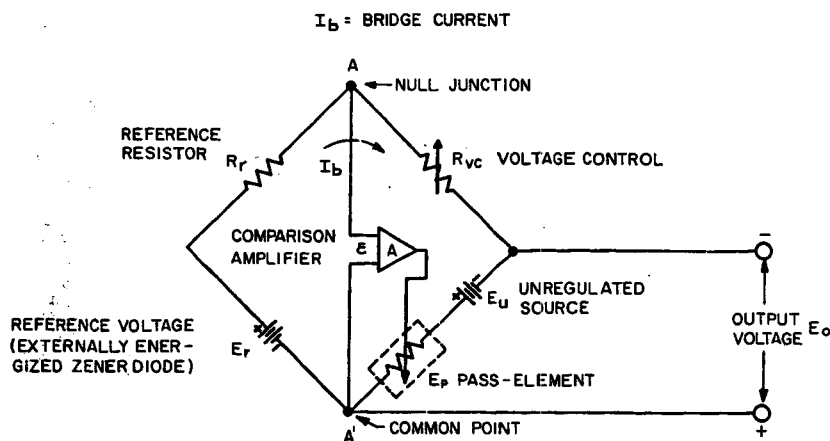

FIG. 3-3 KEPKO POWER SUPPLY CIRCUIT WITH COMPARISON BRIDGE (SIMPLIFIED)
- 3-9 GENERAL. A few general remarks may be in order to familiarize the user of this equipment with the terminology and basic equations pertaining to remote programming of Kepco Power Supplies. Electrically, the power supply, consists of the unregulated DC source (E_u), the pass element (E_p), the DC error amplifier (A) and a comparison circuit which resembles a four-arm electrical bridge. (Refer to FIG. 3-3). The elements of the bridge are arranged to produce a virtual zero at the amplifier input when the bridge circuit is at balance ($V_{AA'} = 0$). Any tendency for the output voltage to change in relation to the reference voltage (E_r) creates an error signal (ϵ) which, by means of negative feedback and the amplifier, tends to correct the output voltage towards restoration of bridge balance.